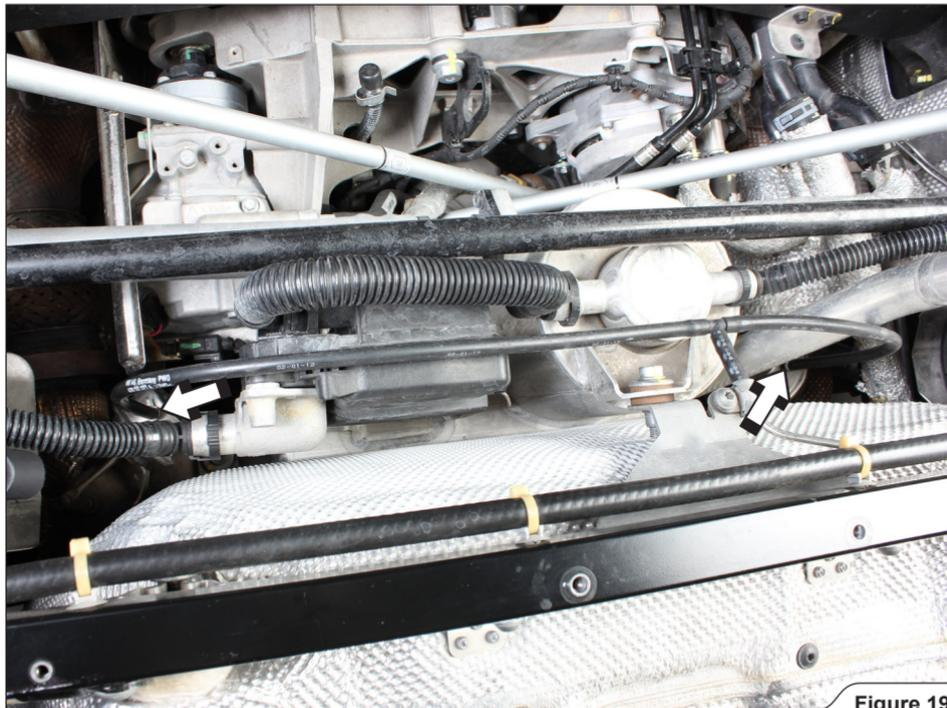

Figure 19
11. Carefully remove the vacuum tubes off both exhaust valves' actuators (**Figure 19**).